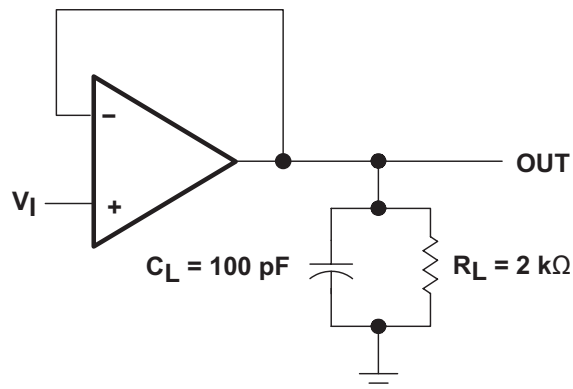

Figure 16. Unity-Gain Amplifier
| SR        | Slew rate at unity gain (1) | $V_I = 10\text{ V}$ , $R_L = 10\text{ k}\Omega$ , | $C_L = 100\text{ pF}$ , see Figure 16 | 1.5 | 3.5 |     | V/ $\mu\text{s}$       |
| $t_r$     | Rise-time                              | $V_I = 20\text{ V}$ , $R_L = 10\text{ k}\Omega$ , | $C_L = 100\text{ pF}$ , see Figure 16 |     | 0.2 |     | $\mu\text{s}$          |